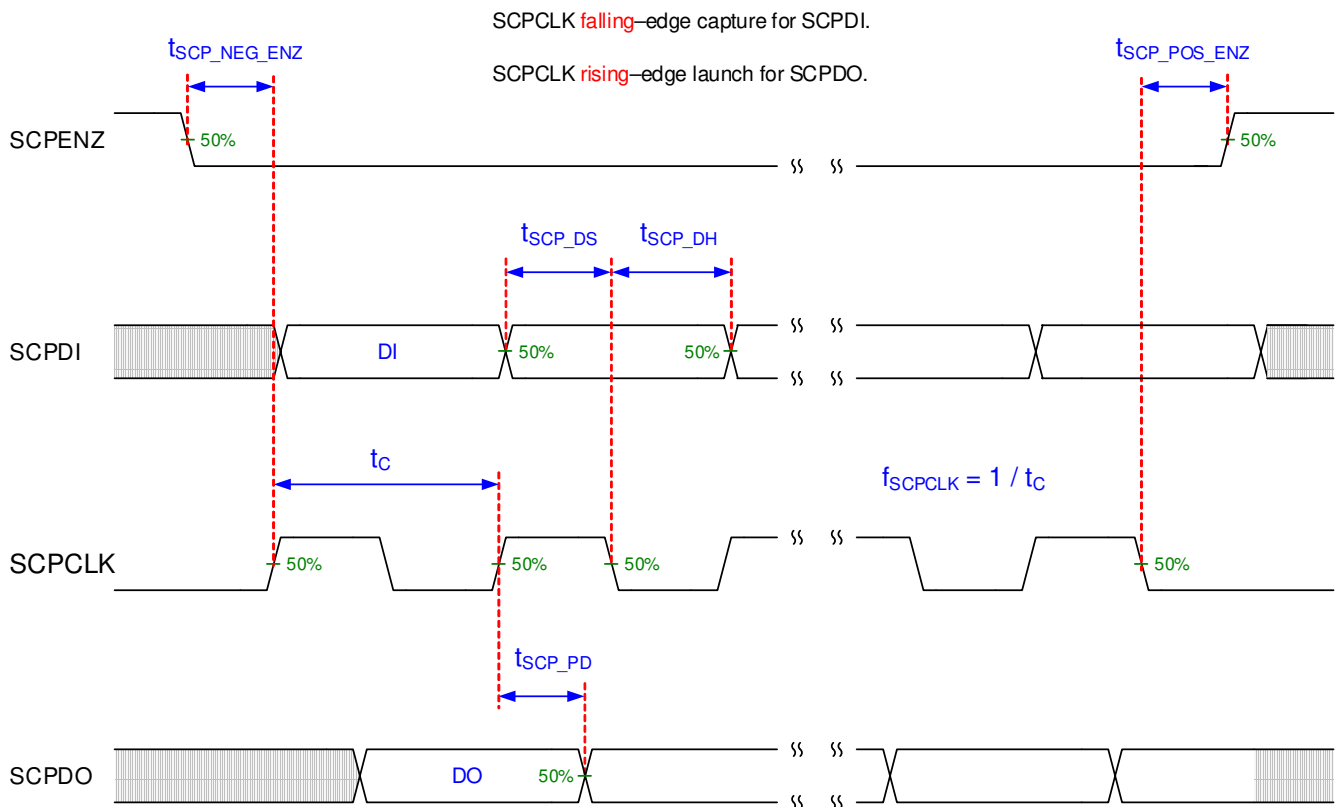

Figure 2. SCP Timing Requirements
(6) PWRDNZ input pin resets the SCP and disables the LVDS receivers. PWRDNZ input pin overrides SCPENZ input pin and tristates the SCPDO output pin.
(7) The SCP clock is a gated clock. Duty cycle must be 50% ± 10%. SCP parameter is related to the frequency of DCLK.
(8) See Figure 2.